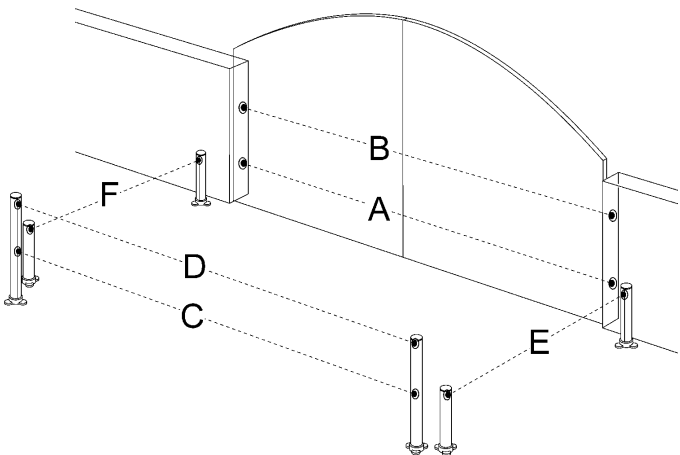
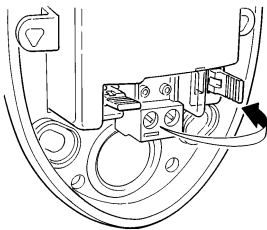

Figure 64
Figure 65
Additional photocells can be installed at any time on top of those supplied with WG2. In an automation system for 2-leaf gates these can be arranged as shown in Figure 64.
- 2 Identify the position where they are installed based on figure 64 and connect with jumper according to Table 11. The unused jumpers must be stored in their proper compartment for future use (Figure 65).